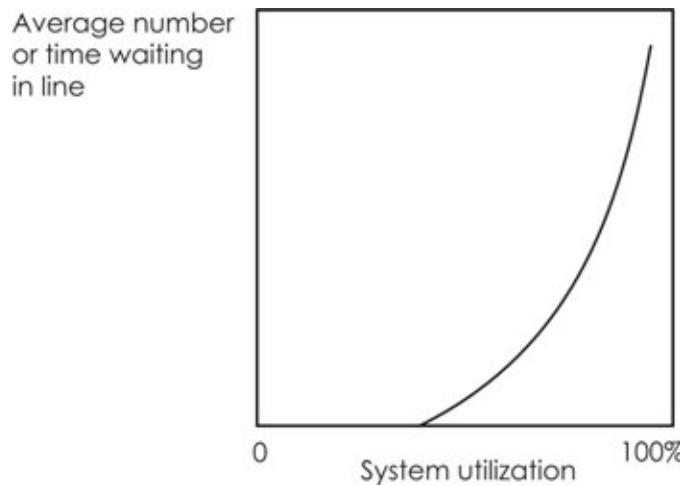

**Fig. 4.5.4: Four common variations of queuing systems**
**Figure 4.5.4** illustrates some of the most common queuing systems. Because it would not be possible to cover all of these cases in sufficient detail in the limited amount of space available here, our discussion will focus on single-phase systems.